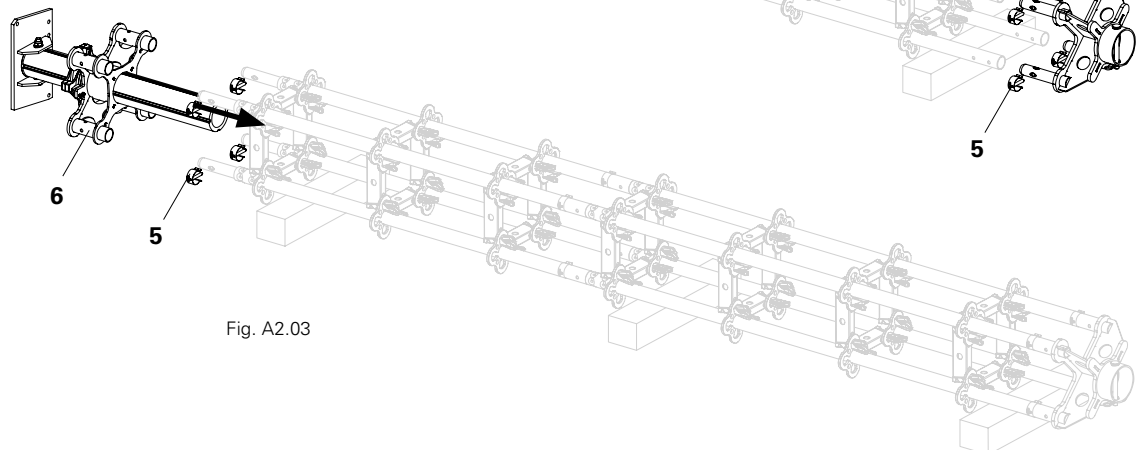

Fig. A2.03
4. Fit the Head Spindle TR 110-80/55 (6) onto the pins of the standards and tightly connect using the locking pins (5). (Fig. A2.03)